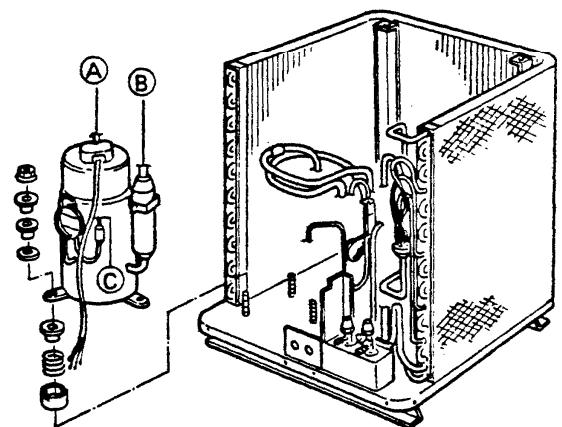

Fig. 24
Take apart three joints (A), (B) and (C) brazed to the compressor by brazing torch. Fig. 24